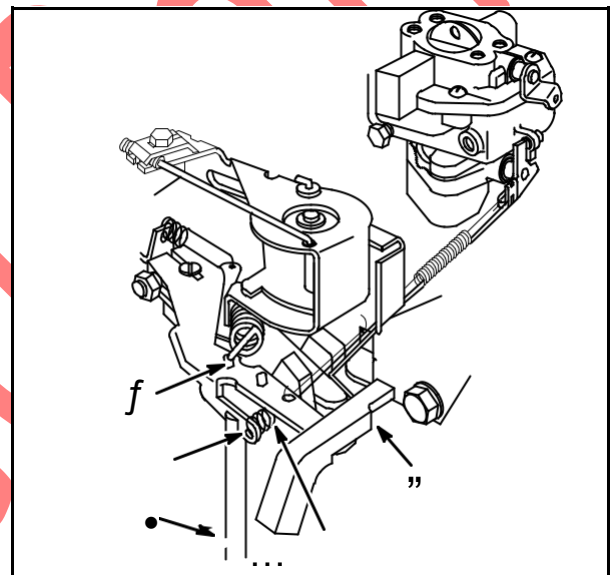

Fig. 42
Some Vanguard OHV V-Twin engines with remote speed control are equipped with a secondary governor spring (5). The primary governor spring is installed in #1 hole (3) on governor lever, **Fig. 42**.
Install Adjustment Gauge **#19385** (4), with notch over end of governor lever and flat end of tool against governor control bracket as shown in **Fig. 42**.
Hold gauge in position and bend tab (2) with Tang Bender **#19532** (1), so that all slack is removed from secondary governor spring (5) between its two anchor points, **Fig. 42**. **DO NOT STRETCH SPRING.**